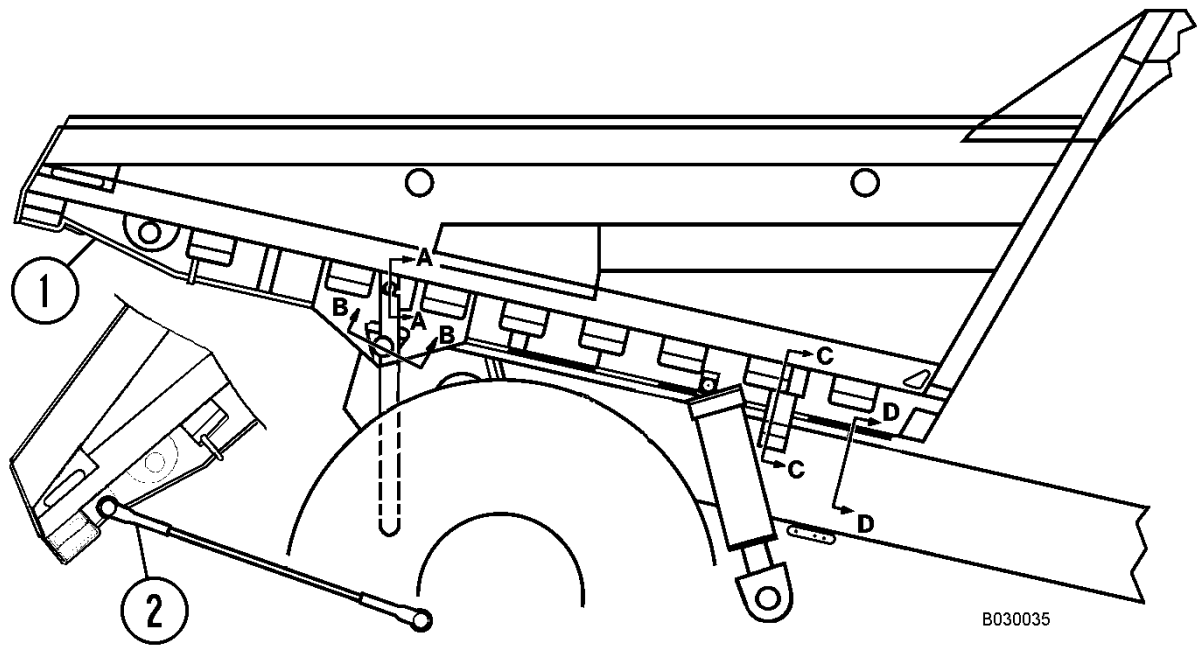

FIGURE 3-1. SECURING THE DUMP BODY
- To hold the dump body in the raised position, raise the body to it's maximum height. Refer to Figure 3-1.
- Remove cable (2) from its stored position on the body and install between dump body (1) and the axle housing ear.